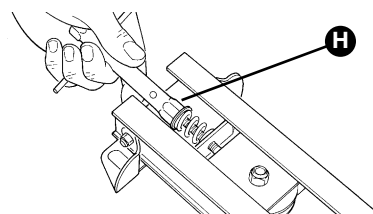

Figure 23
**10** Stretch the belt with the M8 bolt [H], as in fig. 23, until it is sufficiently taut.